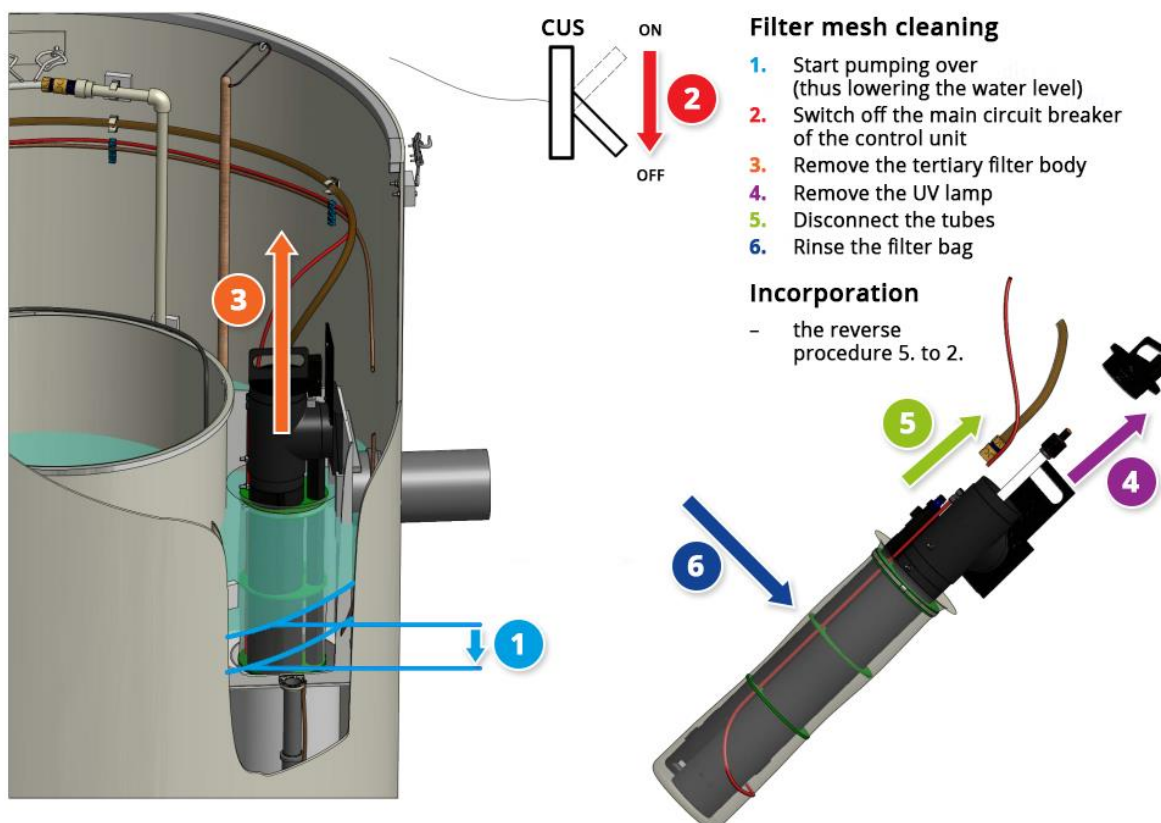

Fig. 33: Tertiary filter cleaning
- Remove the tertiary filter body according to Fig. 33.